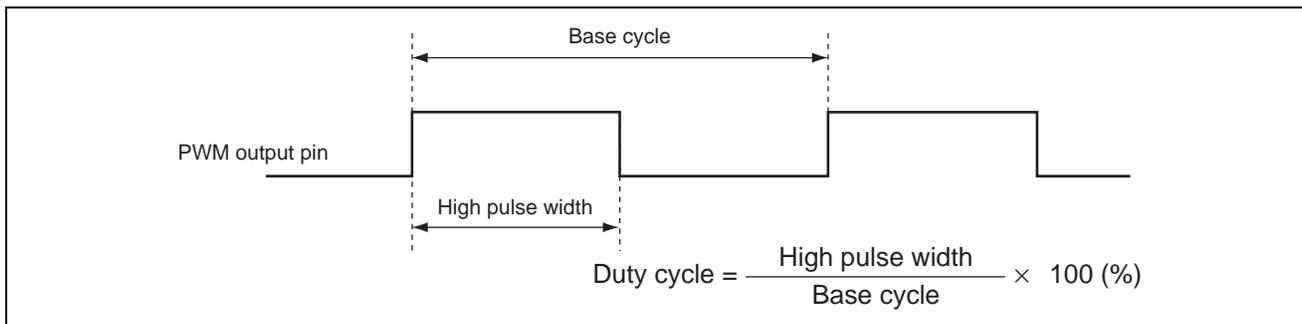

Figure 1 Duty Cycle-Controlled Pulse Output by 14-bit PWM Function
- By using the 14-bit PWM function, duty cycle-controlled pulses are output through a PWM output pin as shown in figure 1.